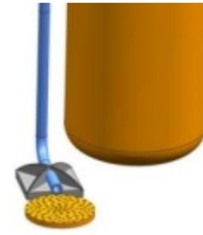

Figure 1-4B
g. Locate the drain hose well as the Figure 1-4B.
- Be sure not to connect drain hose with the sewer, and leave a certain space between them, to prevent the waste water being sucked into the water treatment equipment, as is shown in the Figure 1-4B.